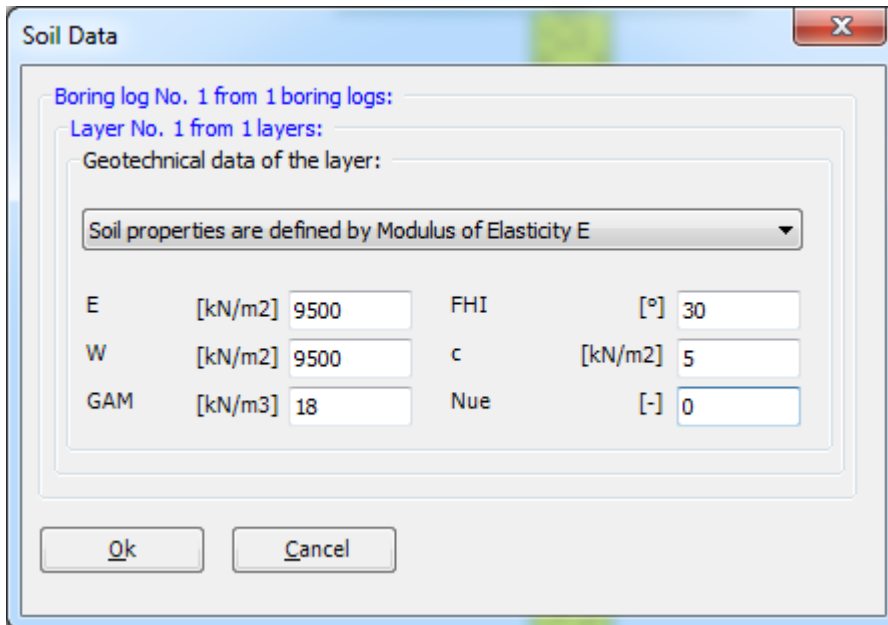

Figure 3.13 "Geotechnical data of the soil layer" dialog box
- Double-click on the geotechnical data of the soil layer. The corresponding dialog box to modify the geotechnical data of the soil layer appears (Figure 3.13)
- In the dialog group box "Geotechnical data of the layer" in Figure 3.13 define the geotechnical data of the soil layer as follows: